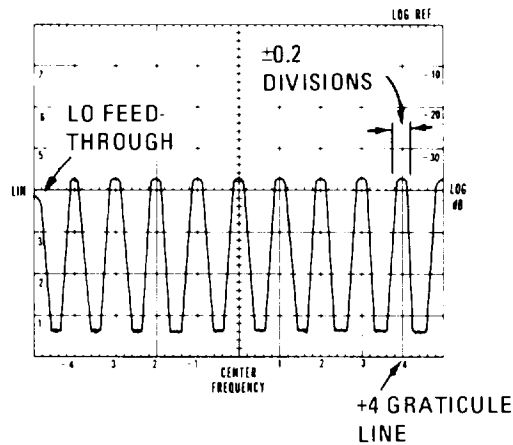

Figure 5-7. 47 MHz LO Adjustment Display
6. Using non-metallic tuning tool, slowly adjust 8552A A3A2C4 (see Assembly and Adjustment Locations photo in 8552A manual) until the LO feedthrough appears on the CRT (about  $\pm 1$  turn); then adjust 8552A A3A2C4 until LO feedthrough is centered on far left graticule line (see Figure 5-7).